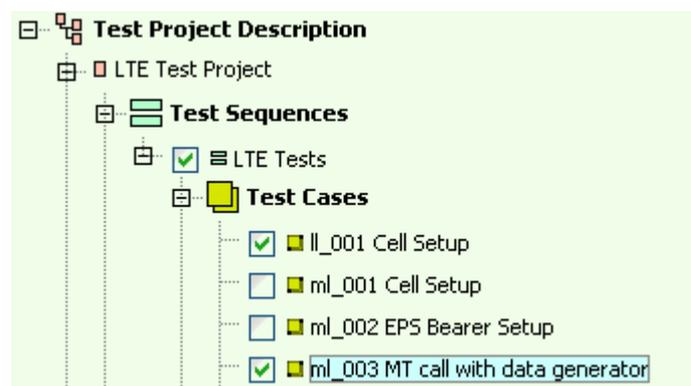

Figure 47: Test cases in the Project Explorer
- ▶ Start the Project Explorer on the R&S CMW (see Figure 47):